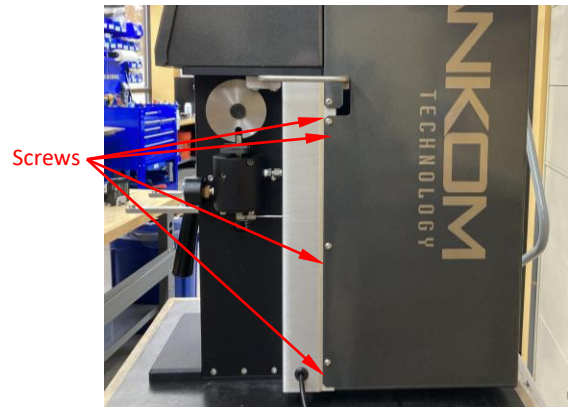

Figure 1
- a. Using a 1/8" Allen wrench remove the eight screws (four on each side of the instrument) that secure the back cabinet onto the instrument. Set aside the screws for later use. See Figure 1.